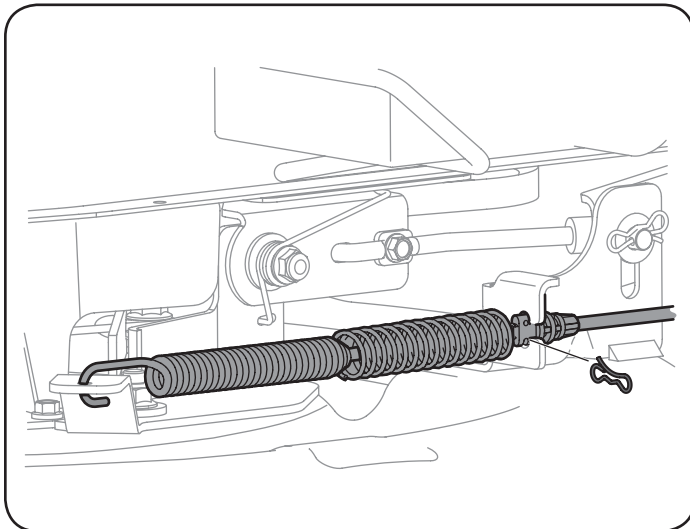

Figure 36
- Carefully remove the PTO cable from the rear of the cutting deck by removing the bow-tie cotter pin which secures it. Remove the spring from the deck idler bracket. See Figure 36.